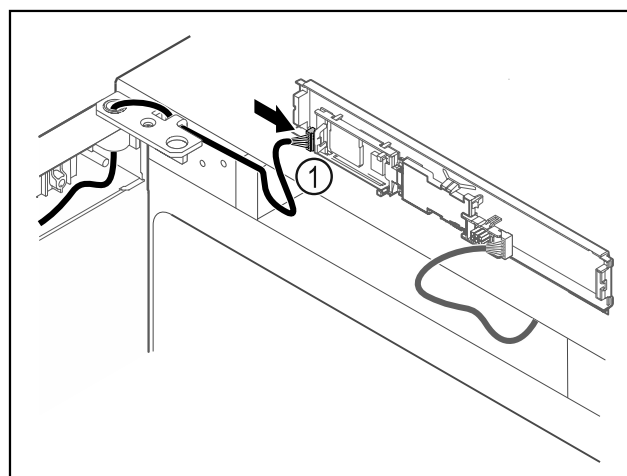

Fig. 56
- Connect the plug Fig. 56 (1) to the circuit board.